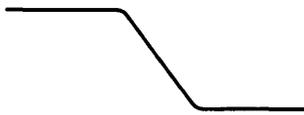

FIGURE 3-12b. Output Voltage
The three waveforms shown in *Figures 3-12b, c and d*, depict how ground bounce is generated. The first waveform shows the voltage (V) across the load as it is switched from a logic HIGH to a logic LOW. The output slew rate is dependent upon the characteristics of the output transistor, the inductors L1 and L3, and C_L , the load capacitance. The second waveform shows the current that is generated as the capacitor discharges [$I = C_L \cdot dV/dt$]. The third wave-